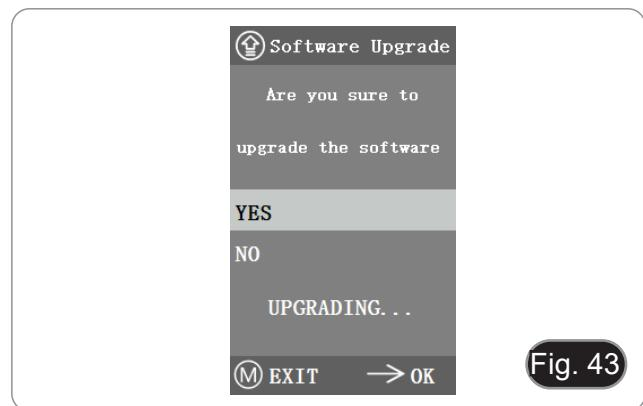

Fig. 43
1. Select "Yes" to upgrade, and the following message will appear: "UPGRADING..." while the system is being upgraded. (Fig. 43)